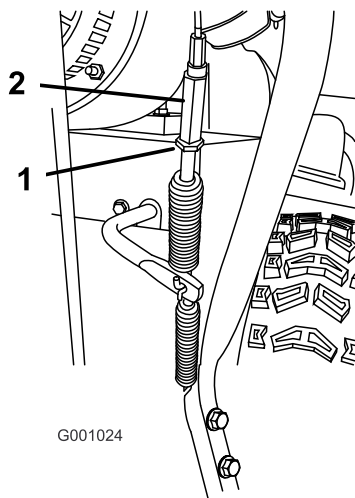

Figure 47
5. Loosen the jam nut (Figure 47).
6. Loosen or tighten the turnbuckle that adjusts the tension on the cable (Figure 47).